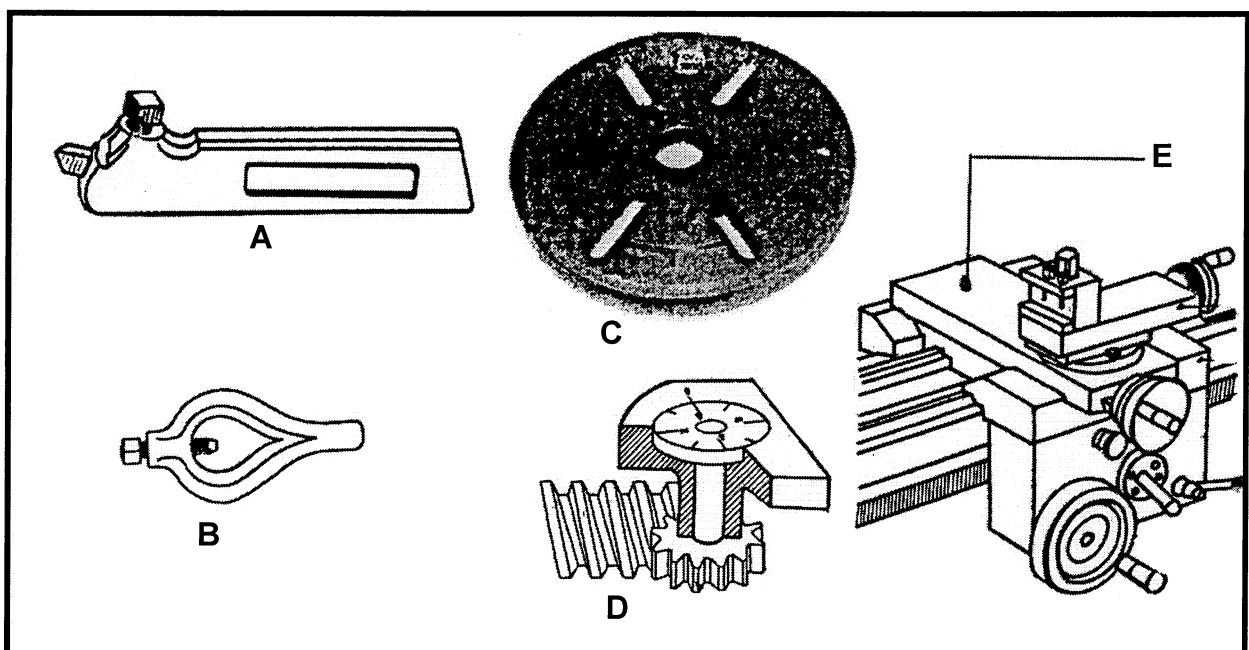

Figure 2
4.2 Figure 2 shows different lathe accessories.